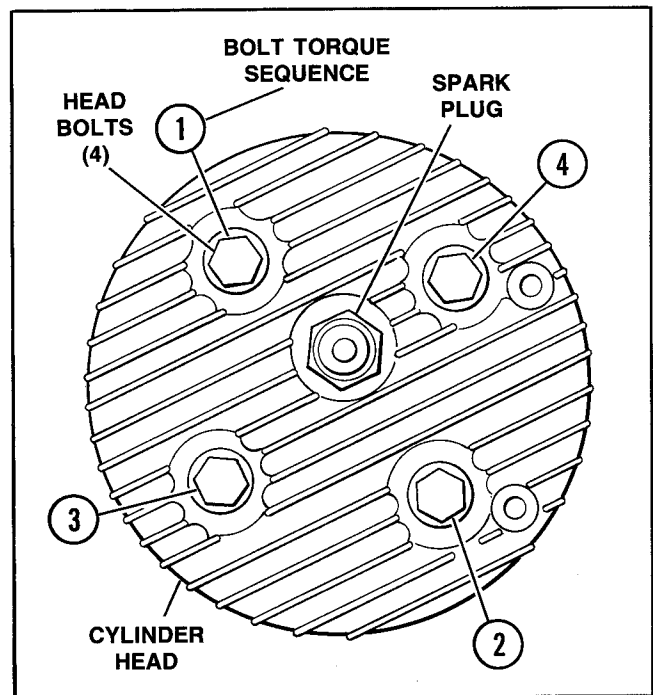

Figure 7-4 – Cylinder Head Removal
- f. See Figure 7-4. Remove spark plug, cylinder head bolts and washers and cylinder head.
- g. Install head gasket, cylinder head and bolts. See SPECIFICATIONS at the beginning of this section for cylinder head bolt torque. See Figure 7-4 for cylinder head bolt torque sequence. Tighten evenly, 5 ft.-lbs. at a time.